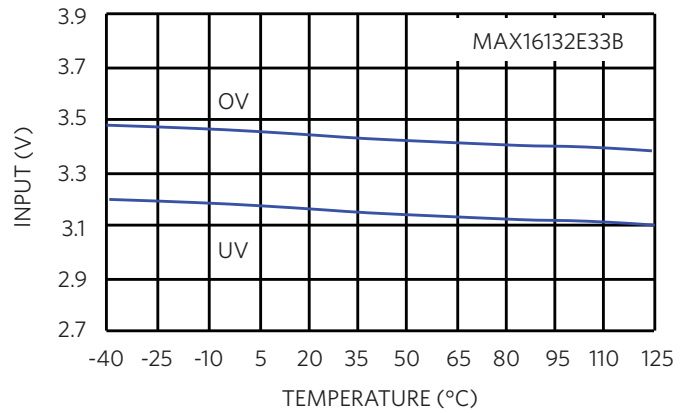

Figure 3. The ±5% Undervoltage (UV) and Overvoltage (OV) Performance Over Temperature of a 4V Voltage Supervisor
The voltage supervisor assists in monitoring the supply voltages at levels between pre-programmed window voltages. With an internal voltage reference, supervisors create an undervoltage (UV) lower window threshold and an overvoltage (OV) upper window threshold (Figure 3).
In Figure 3, the programmed nominal input voltage of the single-channel voltage supervisor is 3.3V, and the percentage of the UV and OV threshold is 4% (factory programmed). At 25°C, UV equals 3.168V and OV equals 3.432V. The reset timeout period for this device is 5ms. The data in Figure 3 also demonstrates the temperature stability of the voltage supervisor.
The voltage supervisor has internal hysteresis at the window thresholds to avoid noise-causing multiple transitions or fault conditions. The factory-programmed hysteresis for the product in Figure 3 is 0.25%.